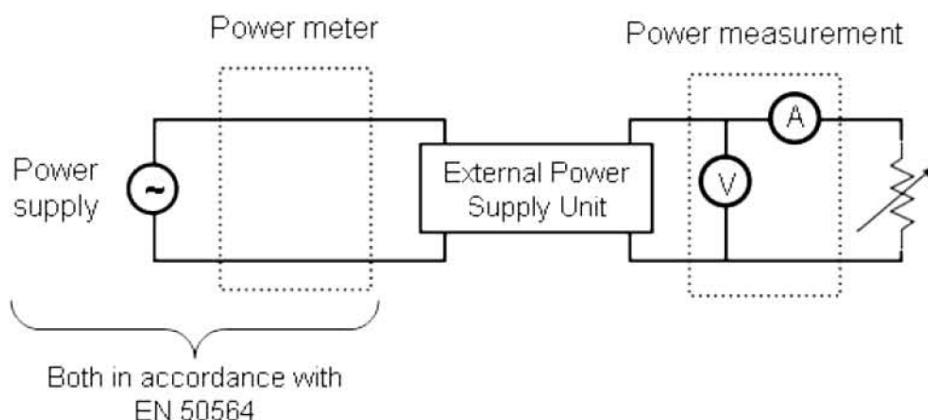

Figure 1
5. Test set-up according following figure 1.
- a) Using the set-up in figure 1 apply load condition as specified in Table 1.